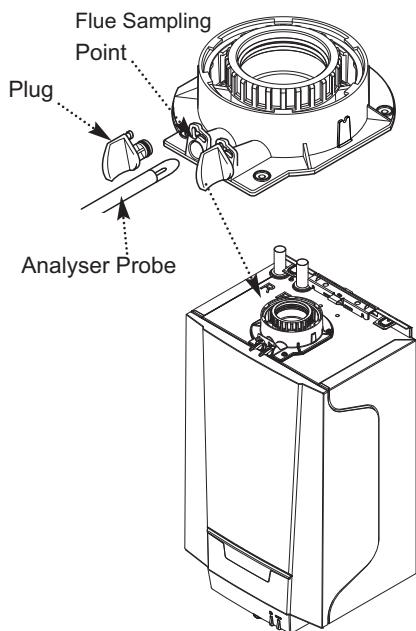

Fig. 35
5. Remove the plug from the flue sampling point (Fig. 35), insert the analyser probe and obtain the CO/CO₂ ratio. **This must be less than 0.004**. If the combustion reading (CO/CO₂ ratio) is greater than this, and the integrity of the complete flue system and combustion circuit seals has been verified, and the inlet gas pressure and gas rate are satisfactory either:-